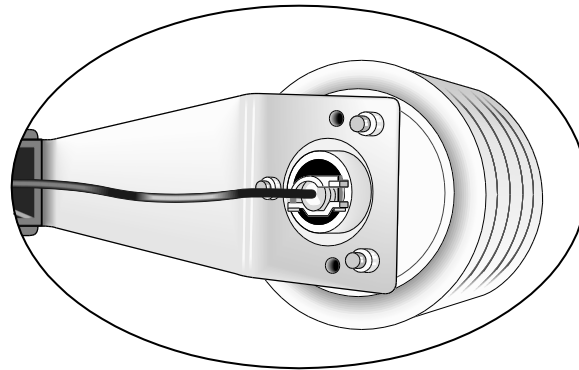

Figure 7-2. HMP60 and 41303-5A Radiation Shield
When used in the field, the HMP60 must be housed inside a solar radiation shield. Typically, the 41303-5A or RAD06 six-plate solar radiation shield is used. The HMP60 is held within the 41303-5A by a mounting clamp (Figure 7-2).
3. Tighten the screws on the collar until it firmly grips the probe body (see Figure 7-2).